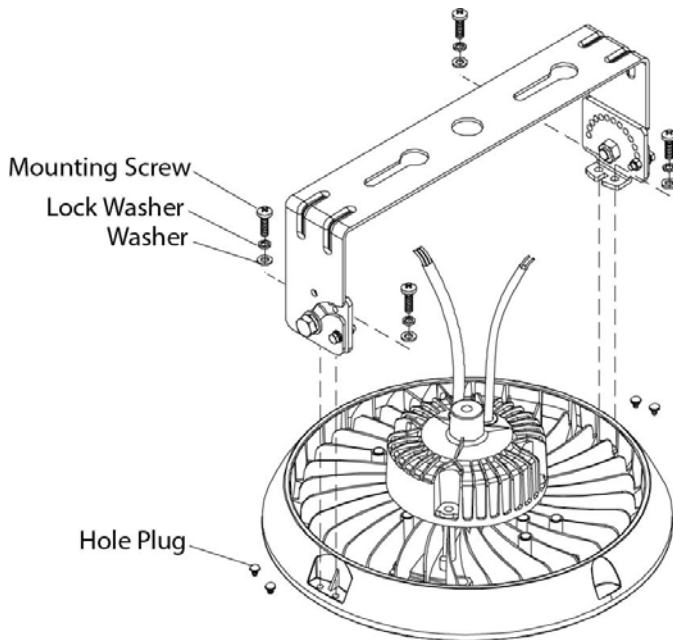

Figure 2
2.2.2 Remove hole plugs from bracket mounting surface. (See Figure 2)
2.2.3 Position Mounting Bracket onto fixture housing aligning mounting holes with holes on housing. Install provided mounting screws, lock washers and washers to attach Mounting Bracket to fixture housing. (See Figure 2).